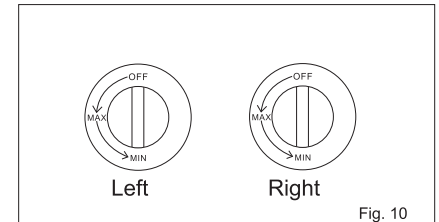

Fig. 10
- Place the gas control knob onto the gas cock axis and push it inwards firmly (Fig. 10).